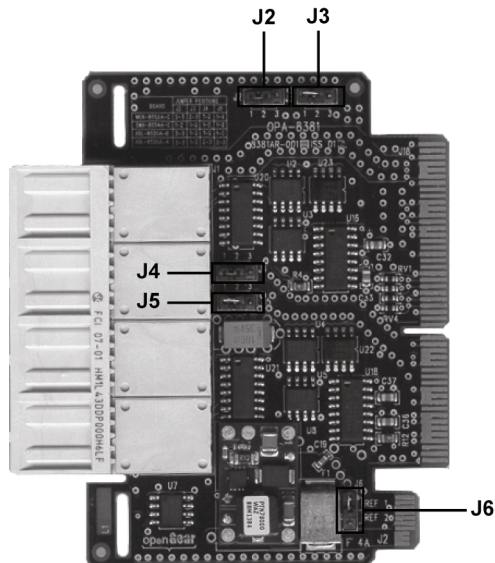
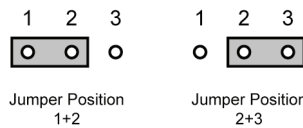

Figure 4. OPA-8381 — Jumper Locations
Figure 5. OPA-8381 — Jumper Positions
Before installing the **OPA-8381**, verify that the jumpers are set as required according to the following sections. Refer to **Figure 4** for jumper locations and to **Figure 5** for jumper positions.
**J2**, **J3**, **J4** and **J5** are configured in conjunction to select the RossGear card installed with the OPA-8381. Set the jumpers according to **Table 1** and **Figure 5**.